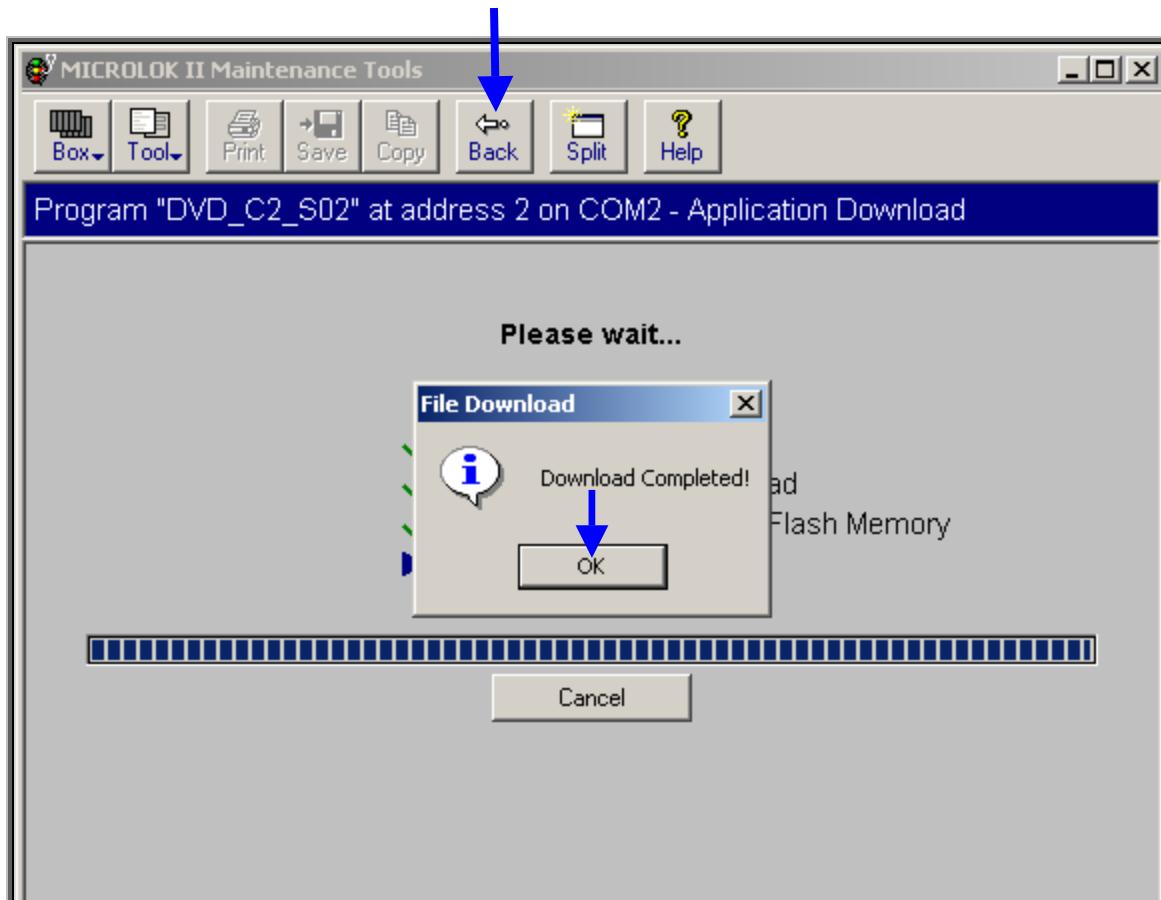

Figure-5.10.4
- ❖ After Application Reading is completed, the following window appears as shown in Figure-5.10.4.
- ❖ After downloading process is completed, “File Download” mini active window appears (Refer figure-5.10.4).
- ❖ Click on the “OK” button when Download Completed (Refer figure-5.10.4).